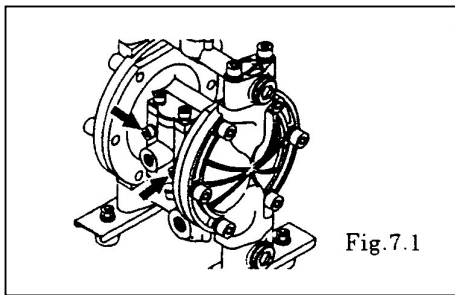

Fig.7.1
See [8. Exploded View] on and after p. 10. (Fig. 7.1 shows the BA□.)
- Remove the 4 retainer bolts from the spool valve case, and remove the spool valve case. [Fig. 7.1]